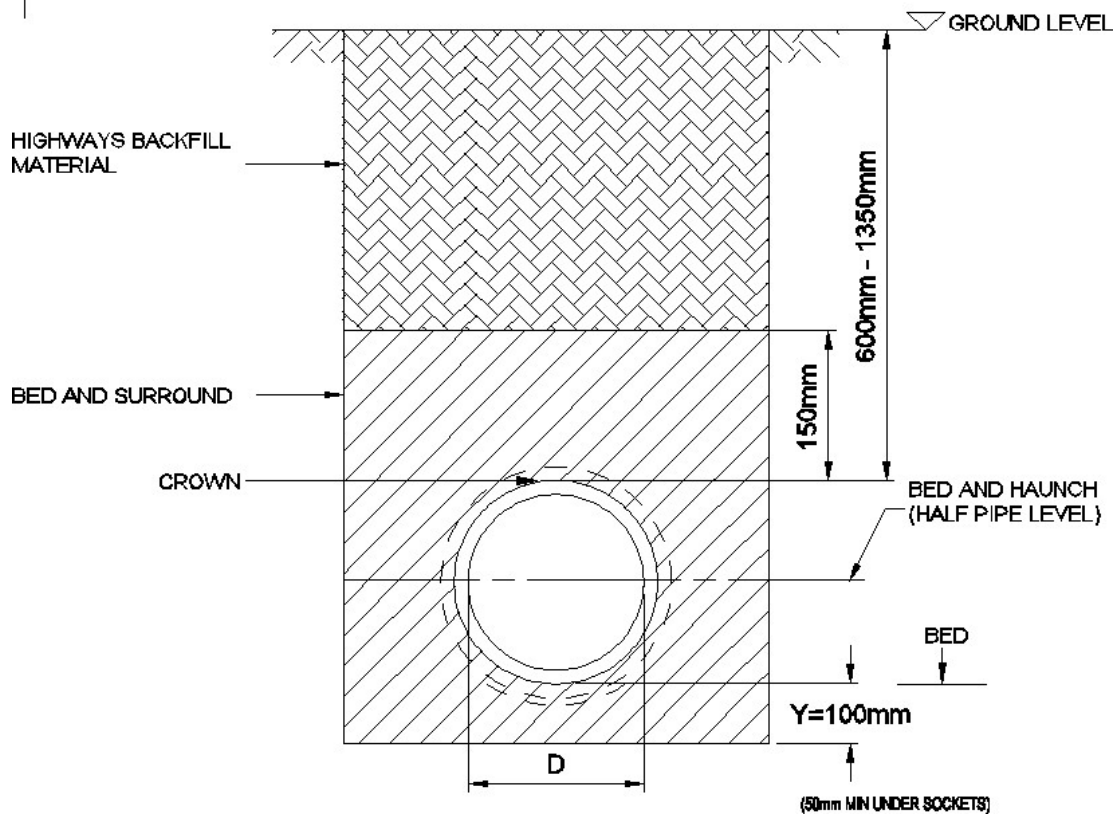

Figure 1 Diagram Showing the Range of Depths for Affinity Water's Pipes
- Typically, water mains are laid at a depth of 900mm. The exact depth of a specific asset may be unavailable but can vary between 750mm and 1500mm as shown in Figure 1. There may however be instances where pipelines cross other utilities' plant, roads, railways or rivers where our pipes could be significantly deeper, occasionally mains are laid at shallower depths. Service pipes normally have a depth of 750mm but again this may vary and their position can be inferred from the position of stop taps and meter box covers. In all situations the potential existence of small supply pipes should always be expected, and all care taken to ensure they are located prior to the use of mechanical equipment.